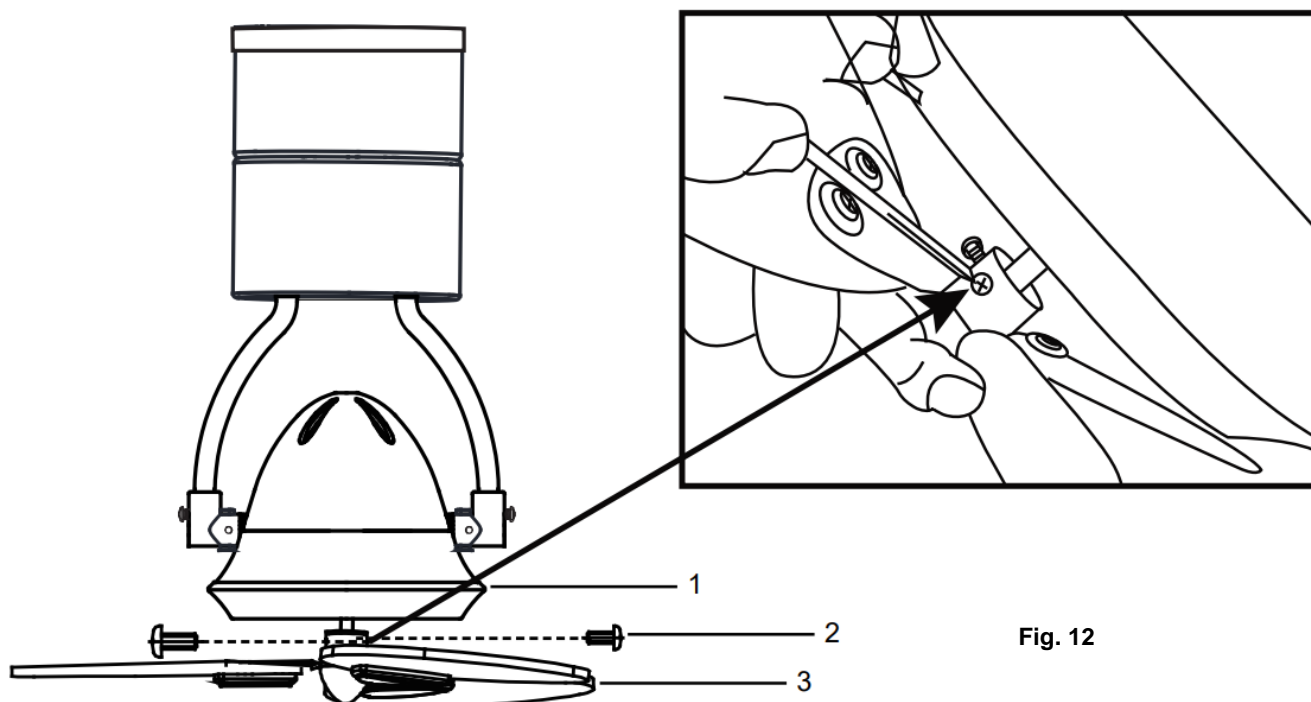

Fig. 12
- Install the assembled fan-blades (3) to the motor part (1). (Fig.12)
- Tighten the 3 set screws (2) on the side of the motor shaft. (Fig.12)